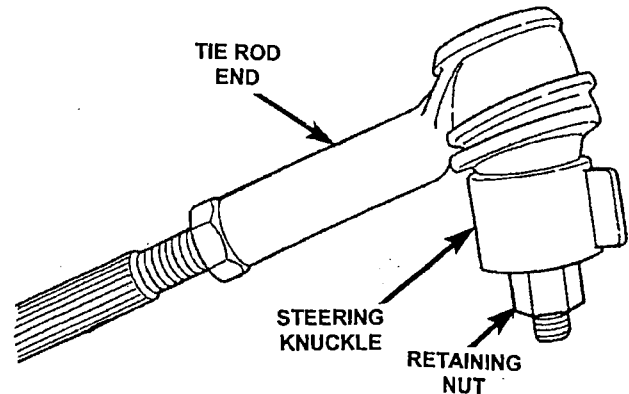

Figure 8
- 30. Connect the tie rod end to the steering knuckle and install the supplied new retaining nut (Figure 8). Tighten the tie rod end retaining nut to 60 ft. lbs. (81 N·m).